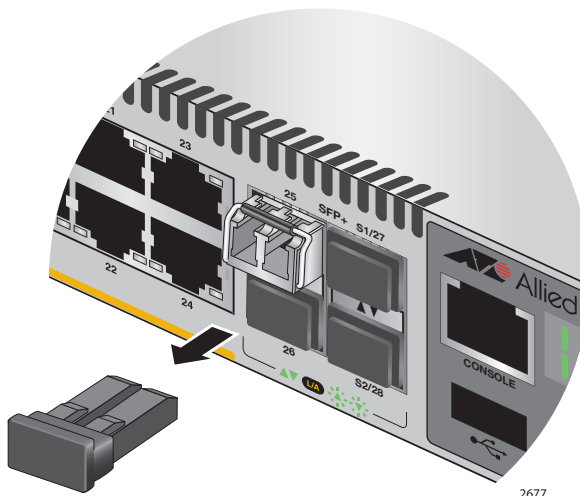

Figure 71. Removing the Dust Cover from an SFP or SFP+ Transceiver
- Remove the dust cover from the transceiver, as shown in Figure 71.